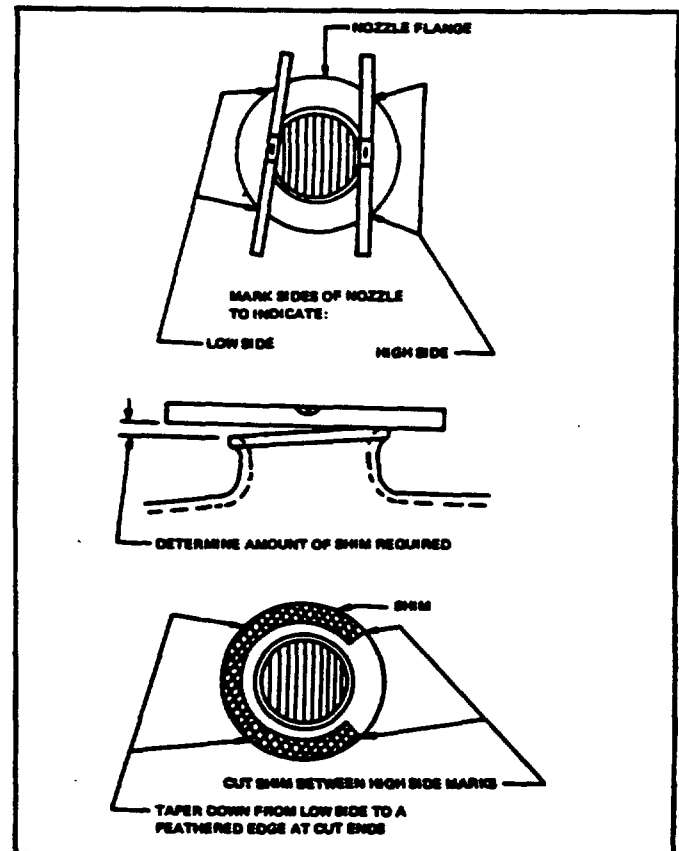

Figure 21. Shimming the Drive Nozzle Gasket
2. Work around nozzle with a spirit level to locate high and low sides. Mark them as shown in Fig. 21. If nozzle is horizontal omit steps 3-10.